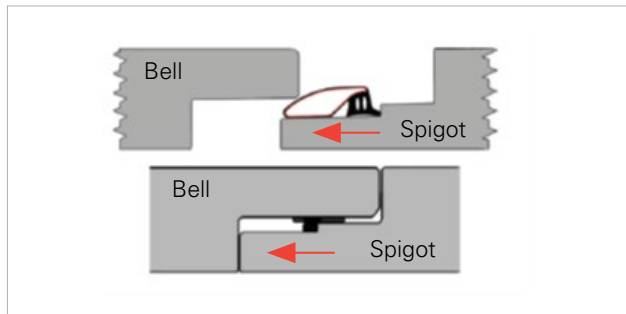

FIG. 5
- The box culvert spigot centres on the bell due to the forces generated as the tube rolls into the annular space during the homing process (See Fig.5)
- Apply adhesive (*Ados F2 or similar approved*) in a 25mm wide strip of glue next to the step on entire flat portion of bottom span (see Fig.5), and centre part of sides and top for a minimum length of 1/8th of the height or span. e.g. 4000mm span, apply 500mm strip of adhesive.